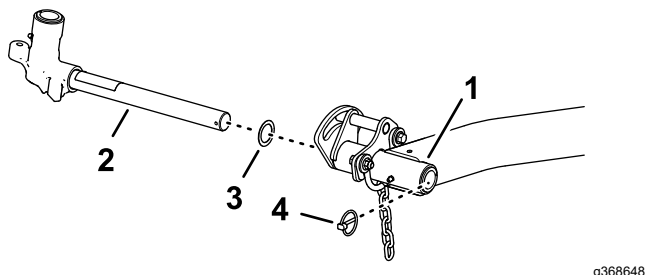

Figure 17
- Remove the lynch pin and washer securing the lift-arm pivot shaft to the lift arm and slide the lift-arm pivot shaft out of the lift arm (Figure 17).